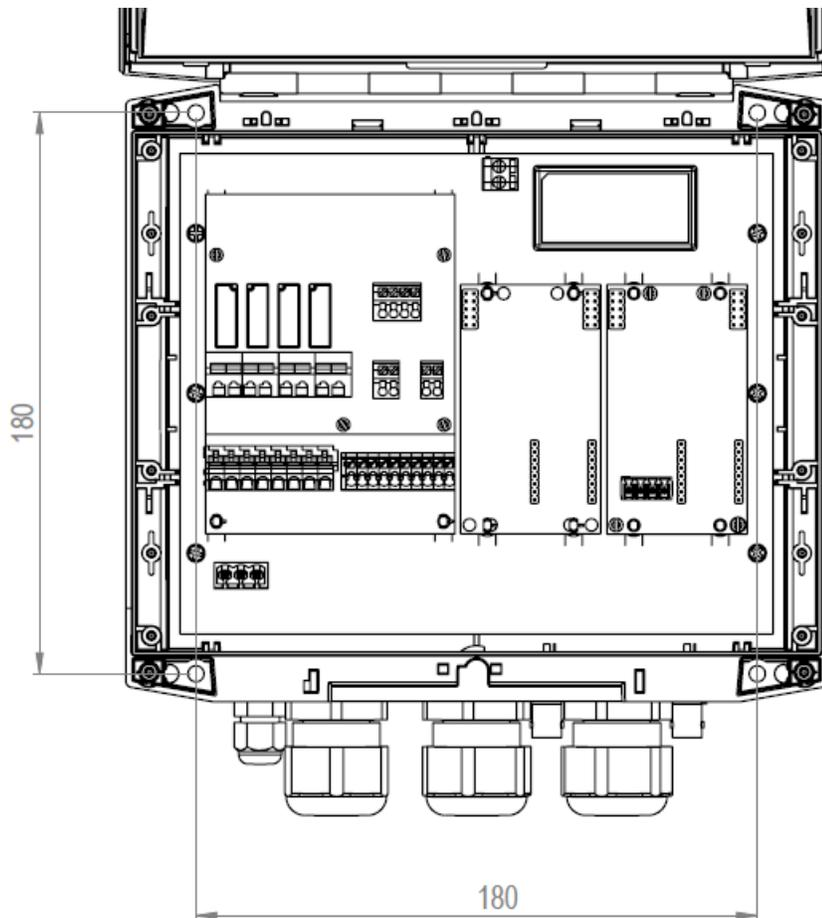

Fig. 2 - Measurements for wall fixing 229l x 204h
Comply with standards in force in the different countries regarding electrical installation (Fig. 2). The instrument is provided without power cord. **The device must be connected to the mains by means of an omnipolar disconnecting switch with at least 3 mm between the contacts. All the power supply circuits must be interrupted before accessing the connection devices.**
The wall-mounting plugs are supplied with the device. **Always use a plug suitable to the available support.** The layout of the holes to be drilled on the support is displayed in Figure 2.
To access the 4 installation holes, remove the covers on the installation points (A) found on each corner of the instrument, use a Phillips screwdriver to loosen the four screws underneath the covers, then open the front panel (see Fig.2).